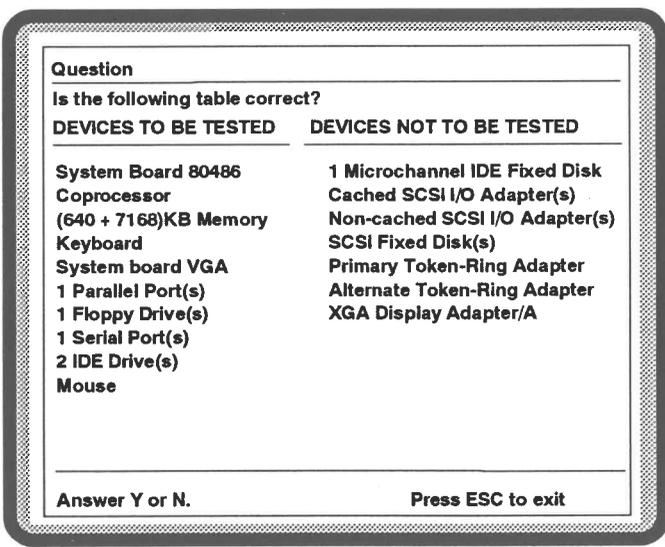

Figure 5-2 Test Group Query Window
4. The list of devices on the left of the **Test Group Query Window** are those that will be tested (see Figure 5-2). The computer automatically compiles this list based on the devices it has sensed. If no changes to the test list are required, press **Y** (yes) to continue with this program and proceed to step 5. If you do want to modify the test status of a device (that is, change from being tested to not being tested or vice versa) press the **N** key. The **Test List Correction Window** appears as shown in Figure 5-3.